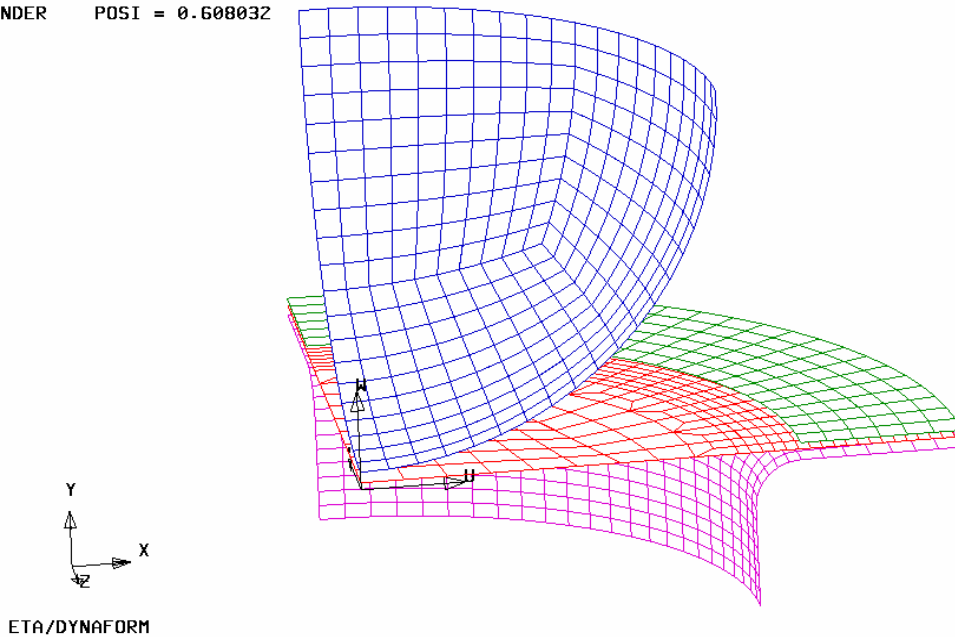

Figure 2.38 Animation of tool movement
5. The time step and displacement of tools are printed on the upper left hand corner of the display area. See Figure 2.38.